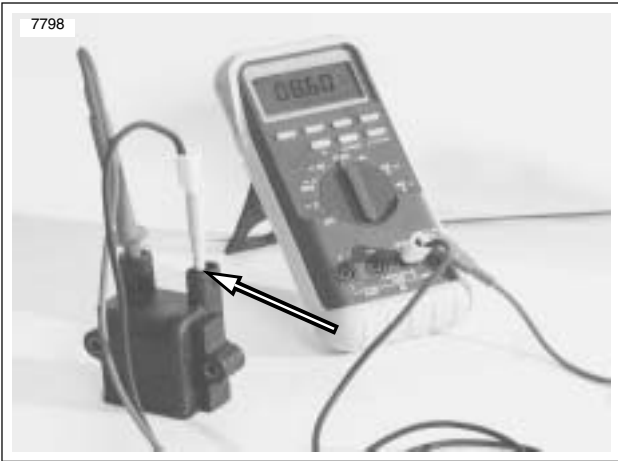

Figure 7-26. Ignition Coil Secondary Resistance Test at Terminal C
3. See Figure 7-26. Using harness connector adaptor kit (HD-41404) gray female probes and patch cord, place multimeter wires on secondary coil windings. See 7.9 IGNITION COIL.